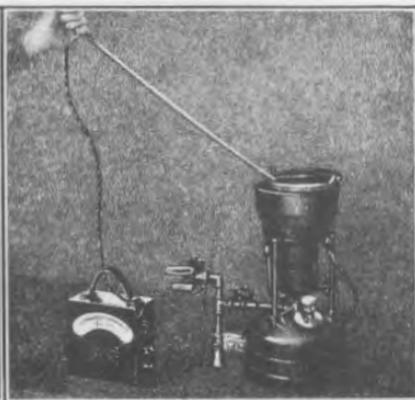

Fig. 149
- 226 The babbitt is placed in a melting pot and heated. The temperature of the metal is very important. Perfect bearings can be poured only when the temperature of the babbitt is between 800° and 840° F. The temperature of the metal can be checked with a pyrometer (See Fig. 149). If no pyrometer is available an experienced repair man can estimate the temperature of the metal by its appearance. When the correct temperature is attained the metal has the appearance of quick silver and tarnishes slowly when the scum is scraped off; the coat of tarnish showing various colors. When cold the metal acts sluggish and the tarnish assumes a dull appearance.